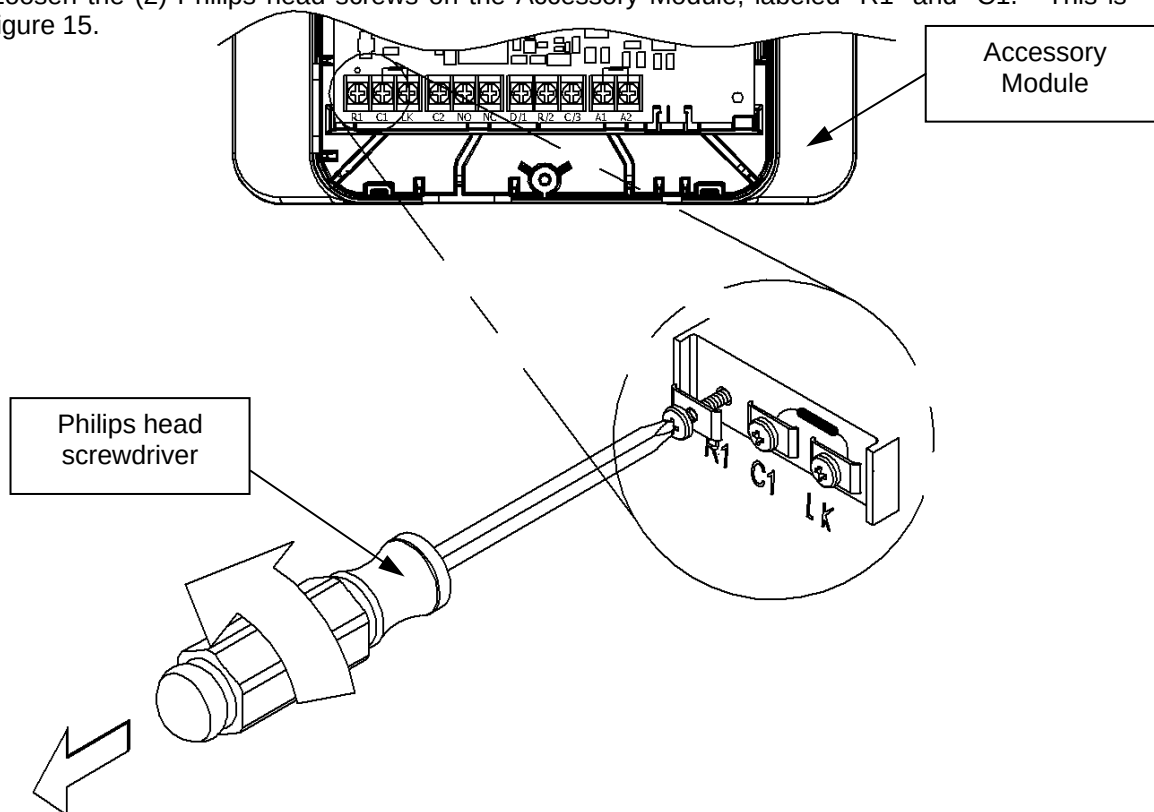

Figure 15
Step 15: Loosen the (2) Philips head screws on the Accessory Module, labeled “R1” and “C1.” This is shown in Figure 15.